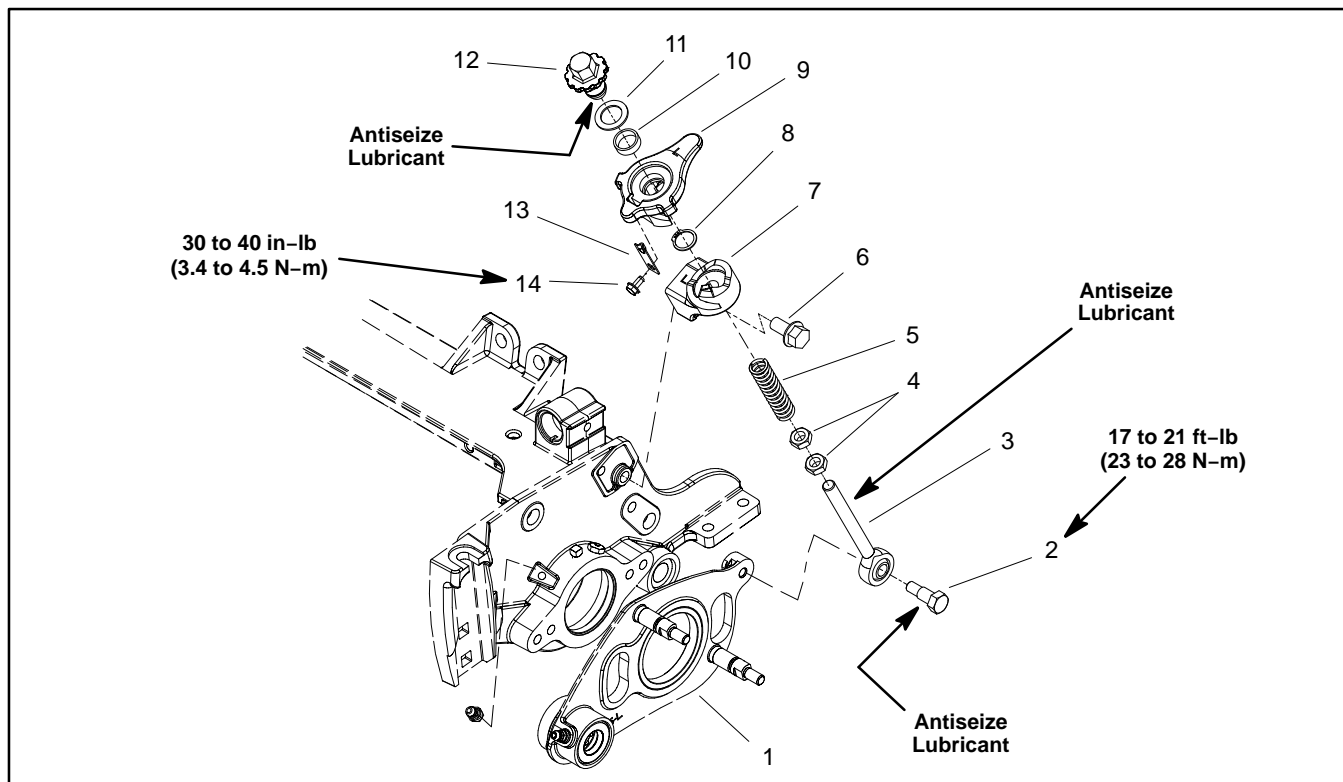

Figure 17
NOTE: The groomer reel drive is located on the opposite side of the cutting unit from the cutting reel hydraulic motor. Figure 17 shows components used when the groomer reel drive is on the left side of the cutting unit.
Disassembly (Fig. 17)
2. Disassemble height adjuster using Figure 17 as a guide.
Assembly (Fig. 17)
1. Assemble height adjuster using Figure 17 as a guide noting the following items:
A. If bushing (item 10) was removed from upper ramp, press new bushing into housing fully to the shoulder in the bore.
B. If jam nuts (item 4) were removed from ball joint rod, apply antiseize lubricant to threads of rod where jam nuts will be positioned. Install jam nuts so that distance from end of ball joint rod to top of upper nut is from 3.060" to 3.180" (7.8 to 8.0 cm).
C. Apply antiseize lubricant to threads of groomer adjuster (item 12) before installing it on threads of ball joint rod.
D. If detent spring (item 13) was removed, secure detent spring to upper ramp with washer head screw. Torque screw from **30 to 40 in-lb (3.4 to 4.5 N-m)**.
2. Secure ball joint rod to groomer plate with shoulder bolt (item 2). Torque shoulder bolt from **17 to 21 ft-lb (23 to 28 N-m)**.